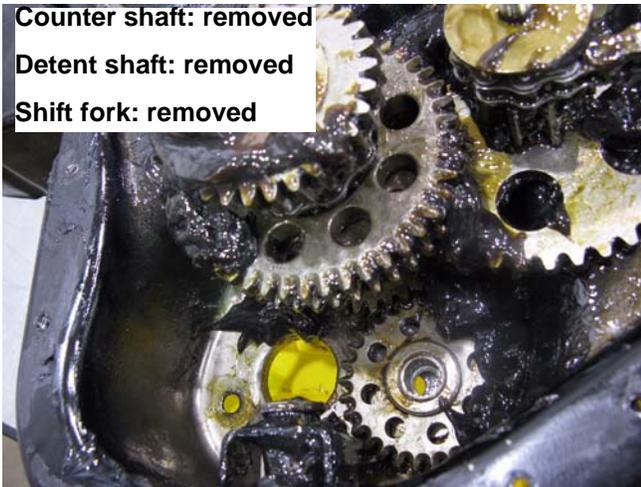

Figure 5.56
7. Drive the input shaft bearing out of the flanged hole in the chain case housing. See Figure 5.56.